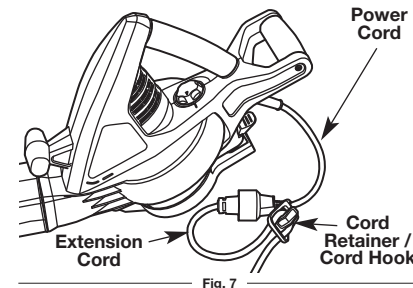

Fig. 7
1. Connect the power cord plug to the extension cord (Fig. 7).
2. Make a narrow loop with the extension cord and push the loop through the lower opening in the cord retainer (Fig. 7).
3. Move the loop onto the cord hook and pull the cord gently to secure the loop over the hook (Fig. 7). This helps prevent accidental disconnection.
3. Disconnect the power cord plug from the extension cord (Fig. 7).